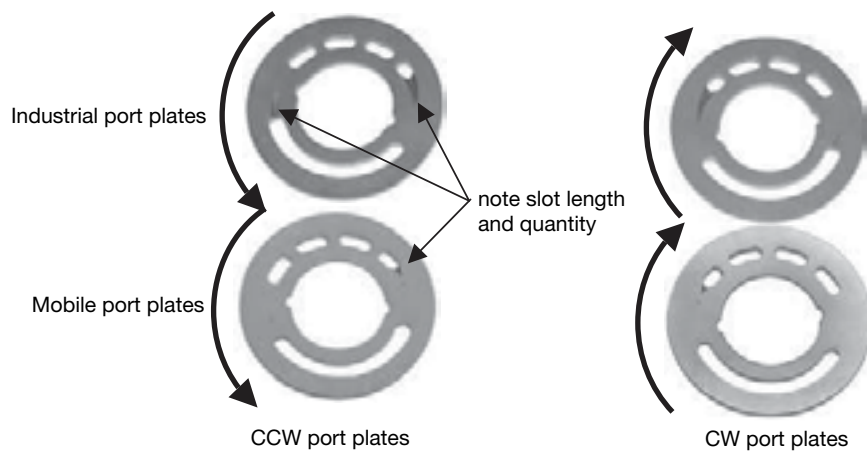

Figure 6
9. Apply a light layer of petroleum jelly to the back surface of the port plate. Install the port plate on the port block, lining up the slot on the port plate with the locating pin. (Refer to Figure 6).